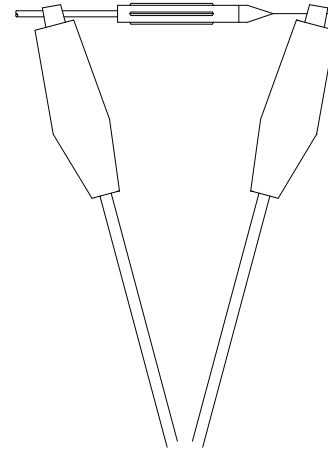

Figure 15: Testing Resistive Electrode
2. Using a VOM meter that will read 15 megohms accurately, connect one meter lead to the metal needle shaft and the other lead to the wire at front of electrode. Electrode should be 14.5 to 19 megohms (nominal 15 megohms at 9 volts or 11 to 17 megohms at 1000 volts). Electrodes outside this range must be replaced. See Figure 15.
- From time to time it is desirable to test the electrical integrity of the LREA4001-00 resistive electrode. (See Figure 15, Electrode Test Procedure, in the SERVICE for 9000A & 9000W of the MAINTENANCE section of this manual.)